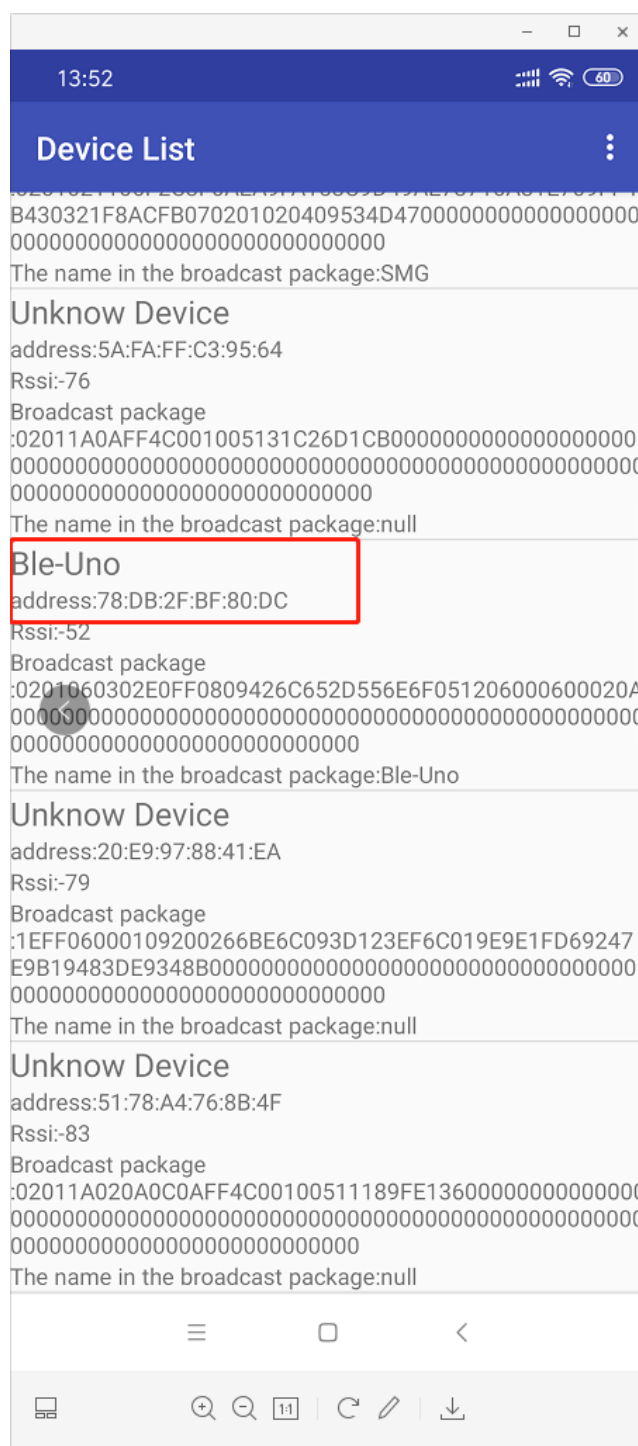
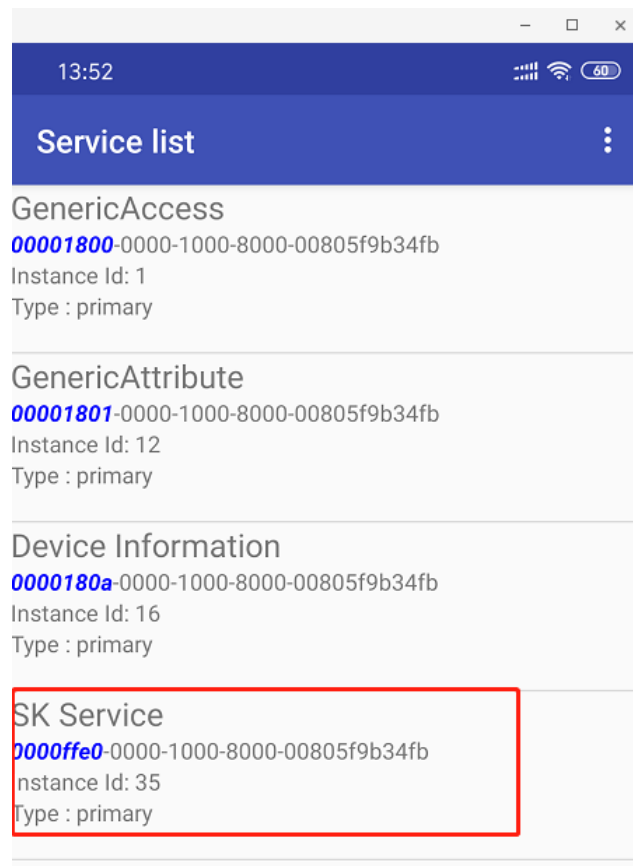

Figure 1.13
Figure 1.14
- 3) Install ble_tool.apk on the phone and open the test APP. The interface is shown in figure 1.13. Find the corresponding bluetooth name (BLE-Uno) and click to connect. After connection, as shown in figure 1.14, four options will appear to test different functions, respectively. Because here we only test whether bluetooth can send and receive data normally, so we select SK Service and select SK_KEYPRESSED as shown in figure 1.14 and 1.15